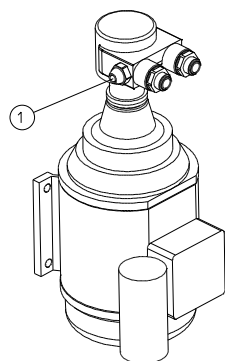

Fig. F-3: Pump
- Use the adjustment valve operating pressure (refer to fig. F-3, no. 1) to throttle the pump in such a way that the specific permeate flow rate 125 l/h is achieved.